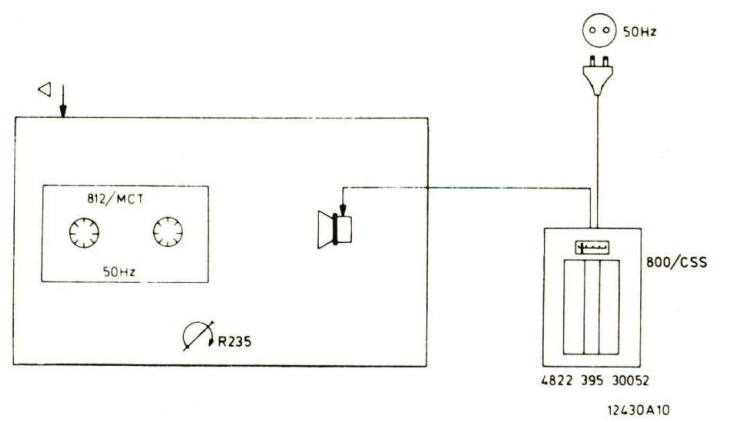

Fig. 6
d. Checking the tape speed (Fig. 6)